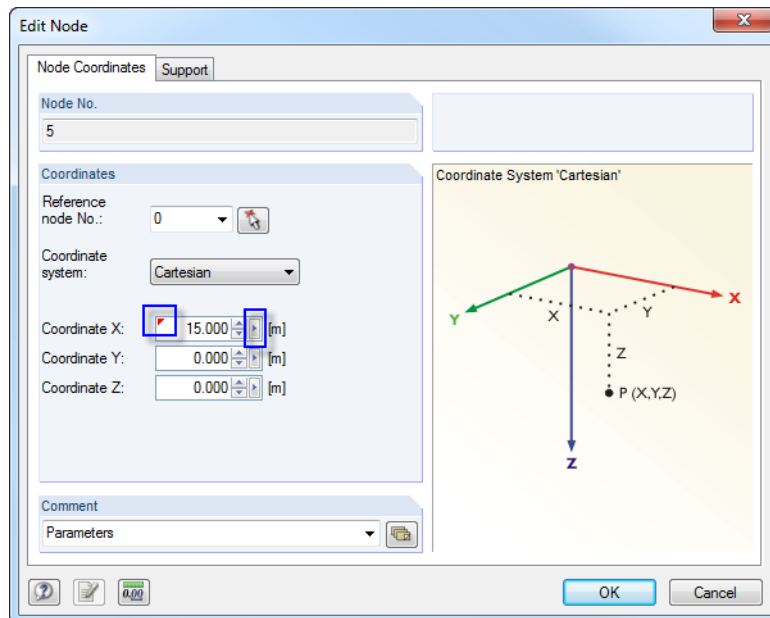

Figure 11.135: Dialog box with linked formula and function button
- use the function buttons next to the input fields in dialog boxes (see Figure 11.135).